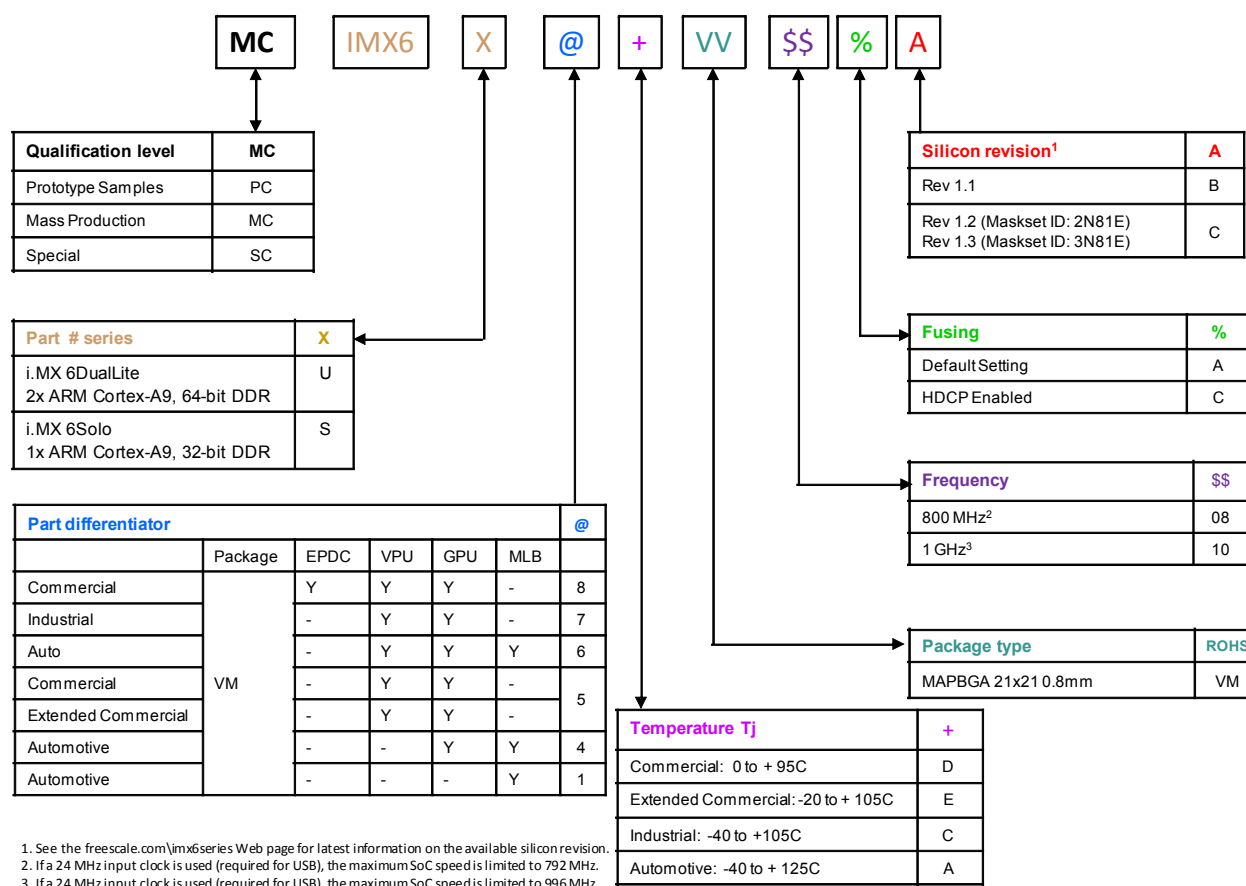

Figure 1. Part Number Nomenclature—i.MX 6Solo and 6DualLite
**Figure 1** describes the part number nomenclature so that the users can identify the characteristics of the specific part number they have (for example, cores, frequency, temperature grade, fuse options, and silicon revision). The primary characteristic which describes which data sheet applies to a specific part is the temperature grade (junction) field.